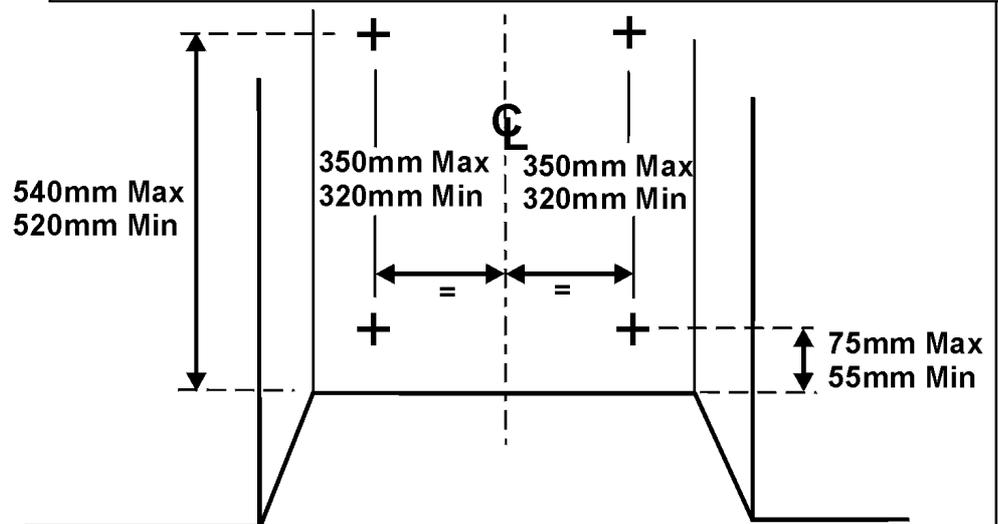

Figure 5. Eyebolt Positions
2. Drill four holes in the rear wall of the fireplace for the eyebolt plugs. The holes should be drilled within the range of positions shown in figure 5 using a no.12 masonry drill. The holes should be equidistant each side of the centre line of the fireplace to ensure that the appliance finishes centrally in the opening when tension is applied to the cables.